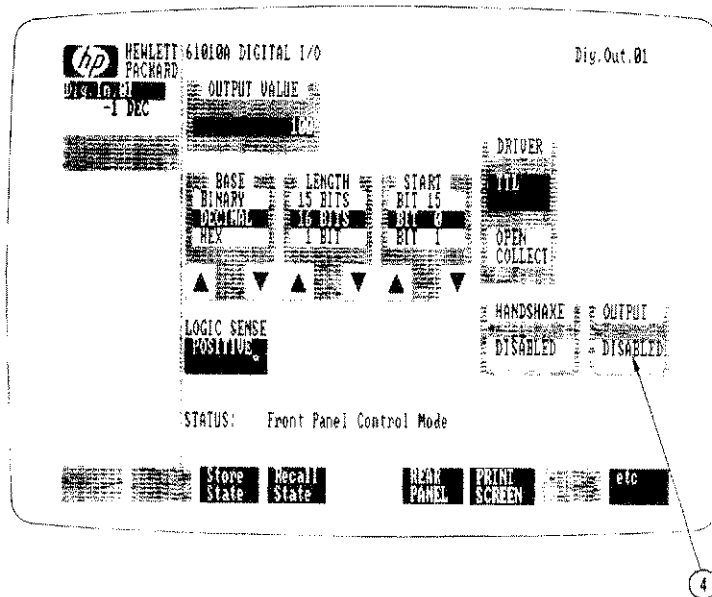

Figure 2-4. Enable the Output
Step 4 - After you press **Return**, the original softkeys return to the screen (see Figure 2-4). Because the output field indicates **DISABLED**, your new entry did not set any output bits on your instrument yet. The output must be enabled before any output bits can be set. Point to and select **DISABLED** to enable the output. (The output field toggles between **ENABLED** AND **DISABLED**.)